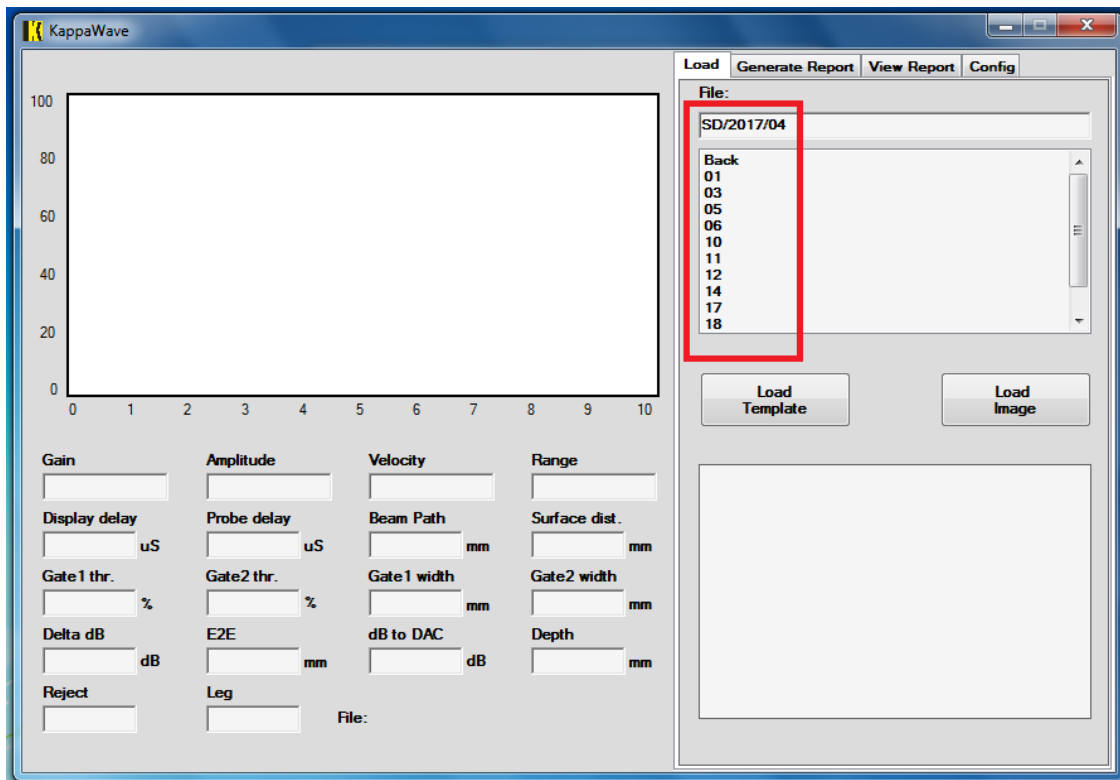

Fig 38. Computer accesses the instrument and you may Select the file to open
Refer figure 38 for the interface software. You may use the menu buttons to select the file you want to create the report for.
7. The software should identify the instrument and display the files in the instrument as in figure 38 below